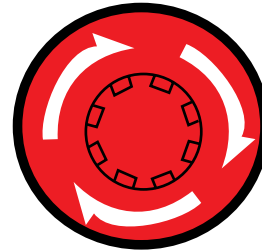

Figure 65. Emergency Stop Button
1. To stop the engine in the event of an emergency, push the **Emergency Stop Pushbutton Switch** (Figure 65). Activating the Emergency Stop Switch will cause the contacts on the main breaker to **OPEN**.